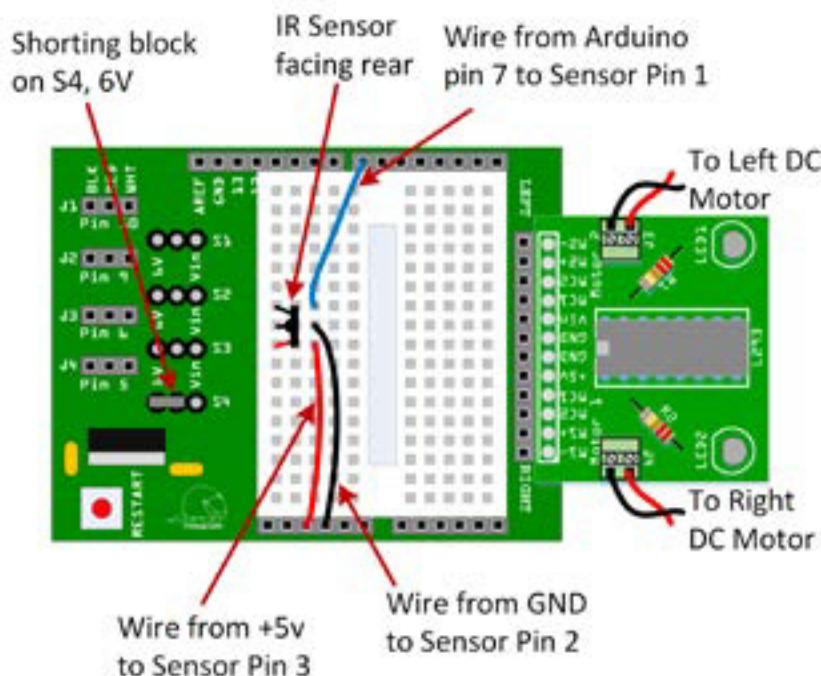

Figure 18-7. Wiring the DC motors
2. Insert the infrared sensor and connect it to +5v, GND, and the Arduino™ pin 7 as shown in Figure 18-7.